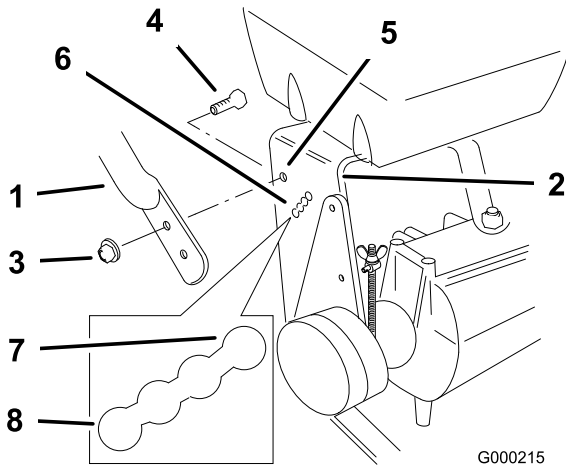

Figure 17
2. Loosen the upper flange bolts (3/8 x 1 inch) and the flange nut securing the handle to the rear frame (Figure 17).
3. Remove the lower flange bolts (3/8 x 1 inch) and flange nuts securing the handle to the rear frame (Figure 17).